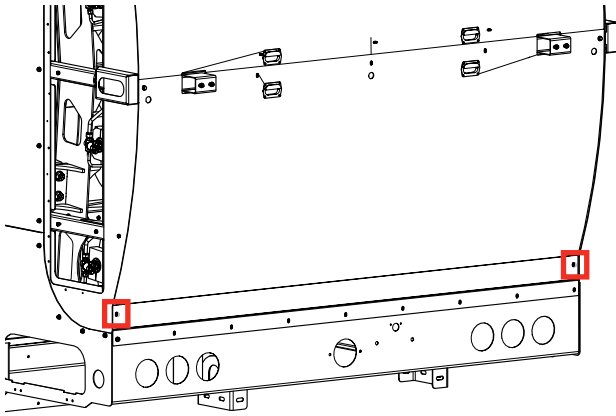

Figure 29-4
5. Reinstall the (2) remaining fasteners to secure the bottom cover sheet in place (Figure 29-4).